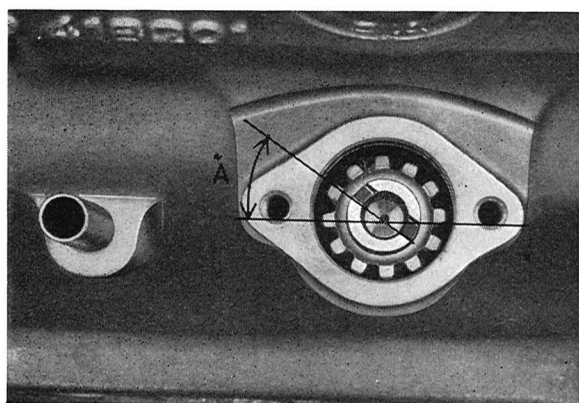

Fig. 2-65. Distributor drive position
When No. 1 cylinder is at top dead center, install the oil pump drive and distributor. The small part at the groove is turned obliquely upwards-backwards and the groove set at an angle of 35° or 5° to the longitudinal axis of the engine, see Fig. 2-65 (A). Make sure that the shaft goes down into its groove in the pump shaft.